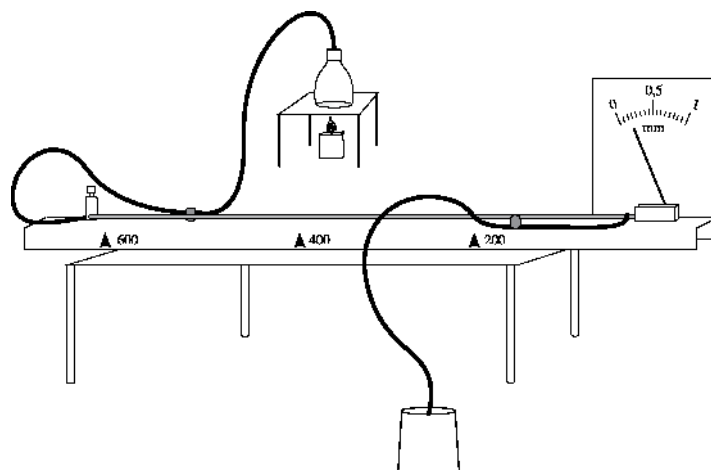

Figure 1
- Hoses should be attached as in Figure 1 and the run-off bowl should be placed under the hose.